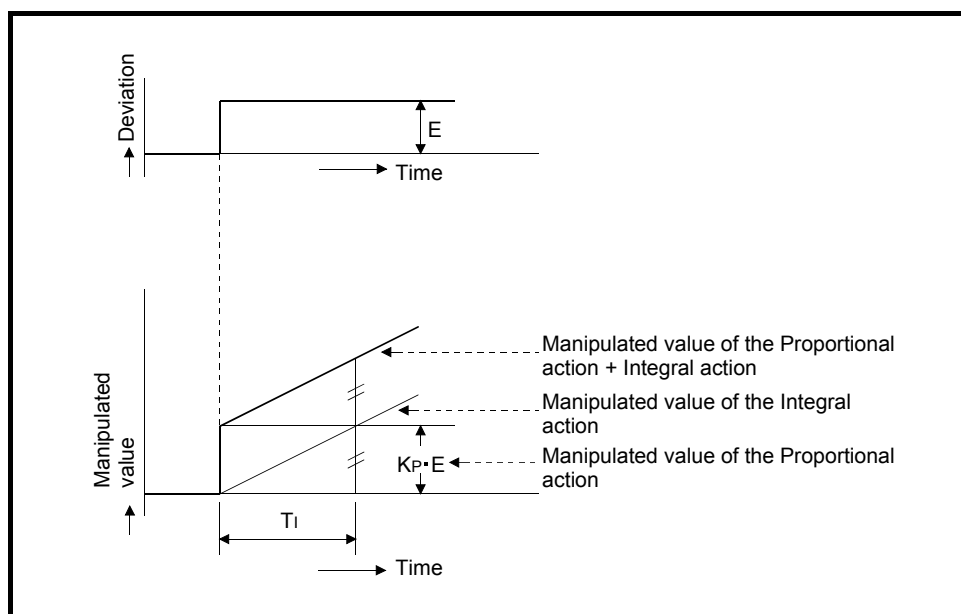

Fig. 1.8 Integral action for step response
- (2) In the integral action, the time from the deviation occurrence until the manipulated value of the integral action becomes that of the proportional control action is called the integral time, and is indicated by  $T_I$ .
- (3) Figure 1.8 shows the integral action for the step response with a constant deviation.
- (4) The integral action is used in the PI action in combination with the proportional action, or the PID action in combination with the proportional and derivative actions.